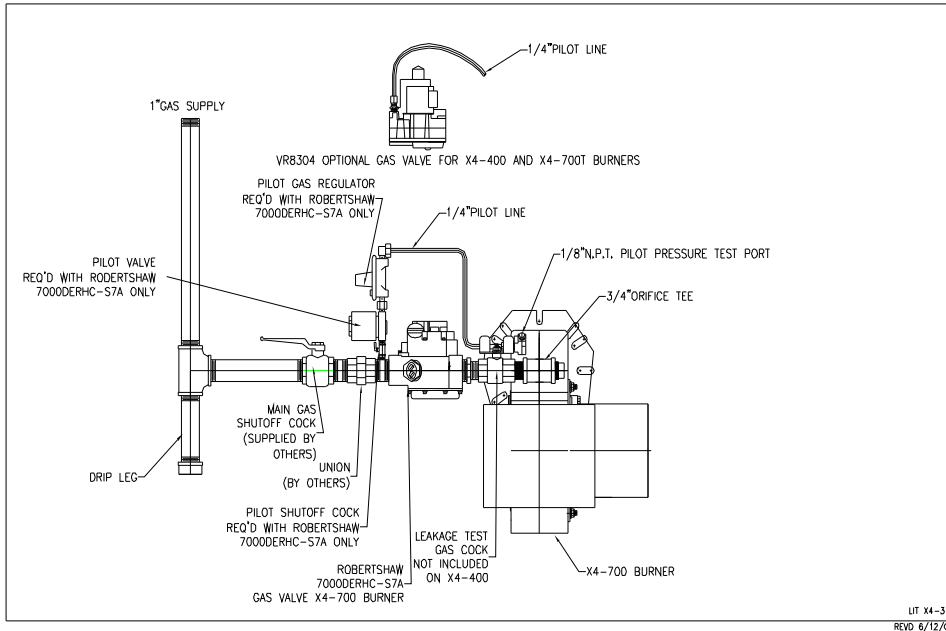

Figure 3: UL Gas Piping Train (X4)
- 5.3 Refer to Figure 3 for details of gas piping. (Also refer to any additional piping diagrams supplied for this specific unit.)
- 5.4 Mount leakage test and main gas cocks, main automatic gas valve or combination gas valve/pressure regulator, and auxiliary valves (if required and not factory mounted) per piping diagram or Figure 3.
- 5.6 The pilot line should be piped into the upstream tapped nipple to minimize pilot line piping length. An optional location is in a tapping located on the main shut-off cock. Refer to Figure 3. For ease of servicing we recommend the use of a union immediately upstream of the main gas pressure regulator or combination gas valve/pressure regulator.